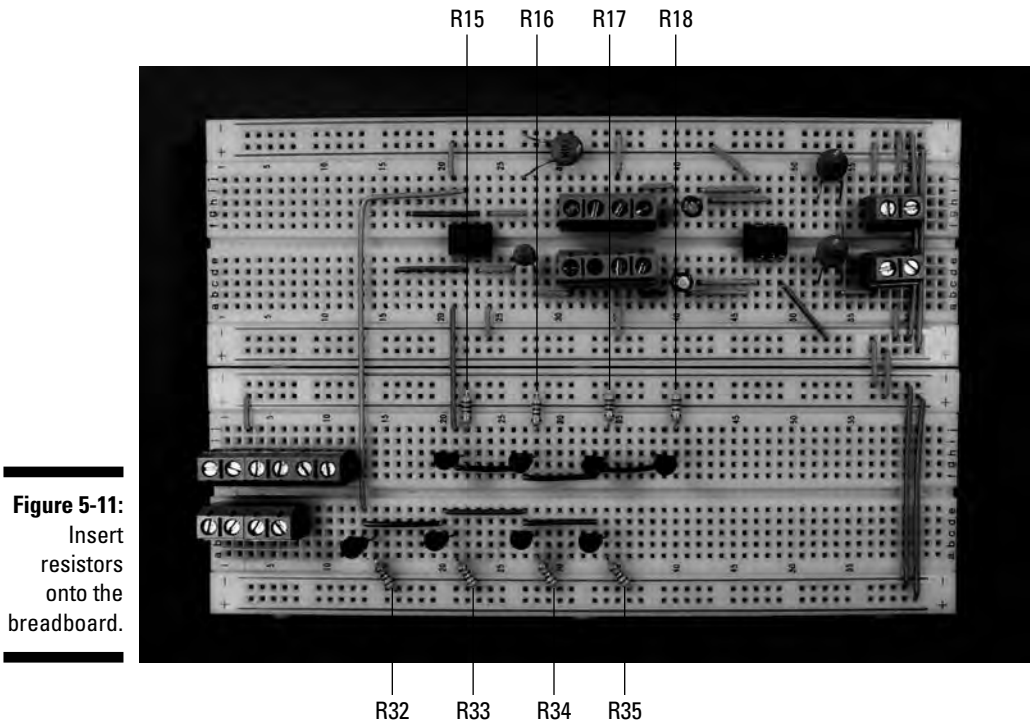

Figure 5-11:
8. Insert eight 1 kohm resistors (R15–R18, R32–R35) from the emitter pins of each transistor to the ground bus, as shown in Figure 5-11.